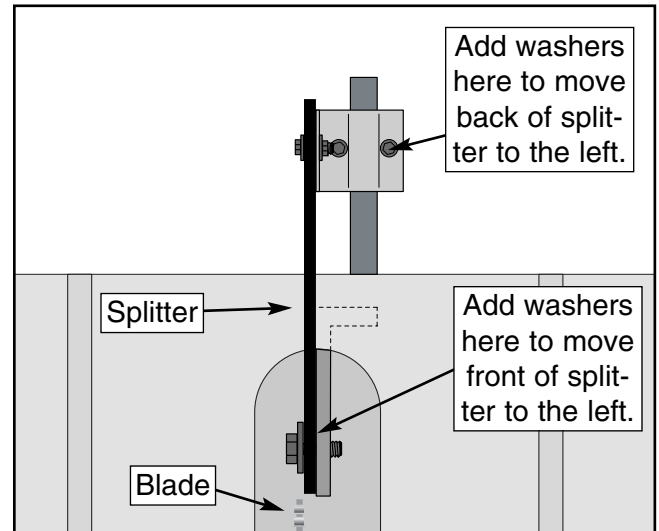
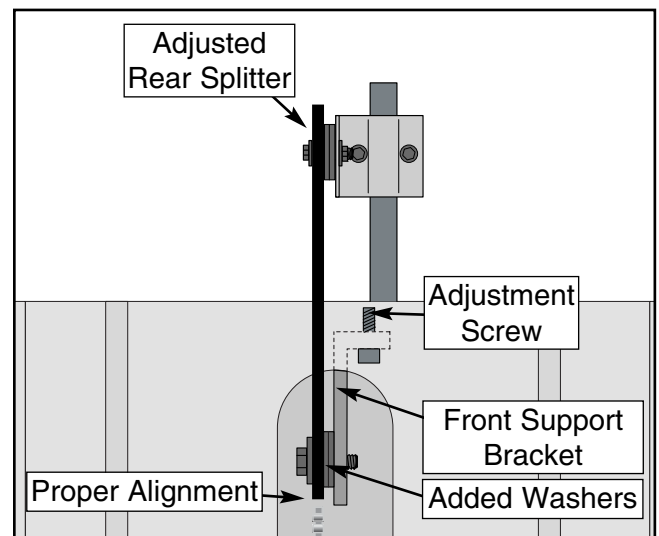

Figure 20. Improper splitter/blade alignment.
Figure 21. Proper splitter/blade alignment.
5. If the blade splitter is to the right of the blade as shown in **Figure 20**, simply add washers between the splitter and the front mounting bracket, and adjust the rear splitter support as shown in **Figure 21**.
7. If the splitter is positioned to the left of the blade, alignment cannot be achieved by washer placement. Adjustment of the front support bracket is required. See **Figure 20** for adjustment details. Loosen the 2 adjustment screws and move left or right.